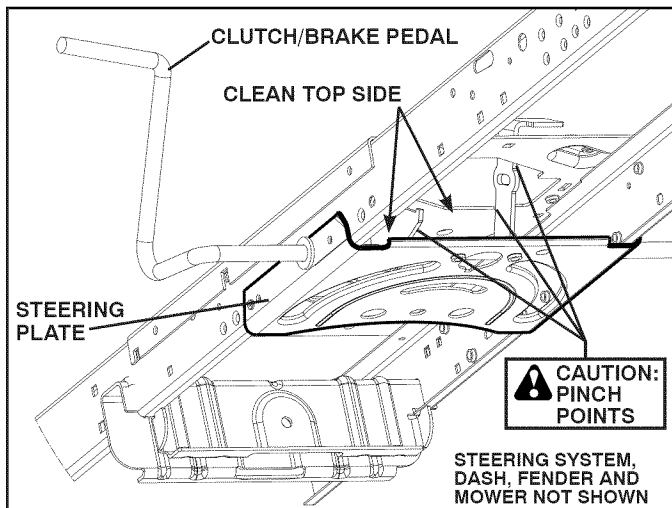

Fig. 33
**CAUTION: Avoid all pinch points and movable parts (See Fig. 33)**